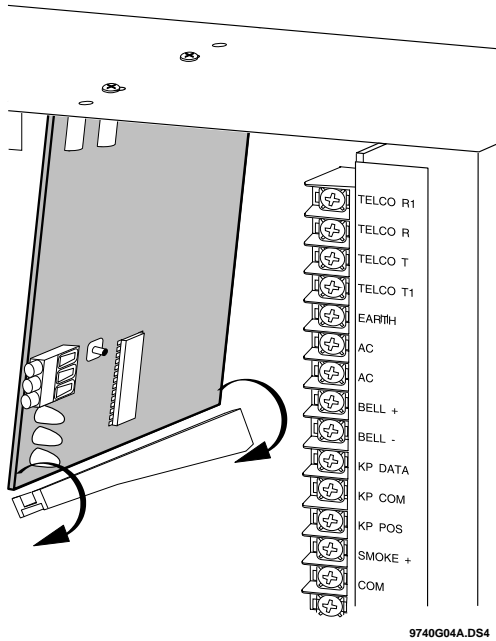

Figure 3. Installing the Module into the Cabinet
3. Install the module into the cabinet by turning the stand-off sideways, then slide the module up onto the ground plane screw posts (see Figure 3).